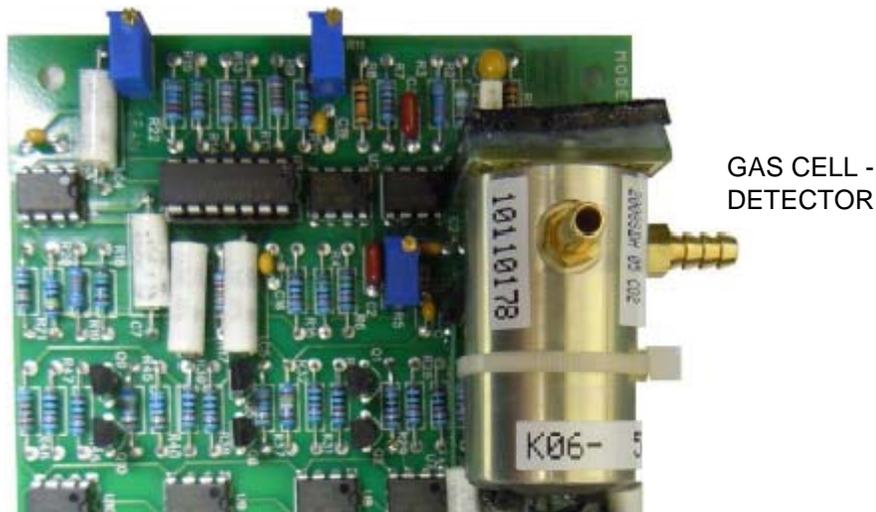

FIGURE 3
**D. Gas Cell/Detector** (see Figure 3)